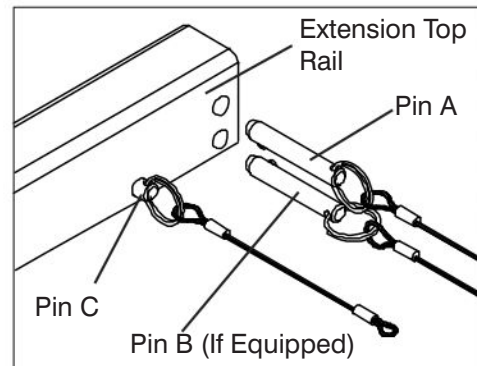

Figure 3-13b. Extension Top Rail Pins
8. Remove left and right side pins A and B (if equipped). (Refer to Figure 3-13b):